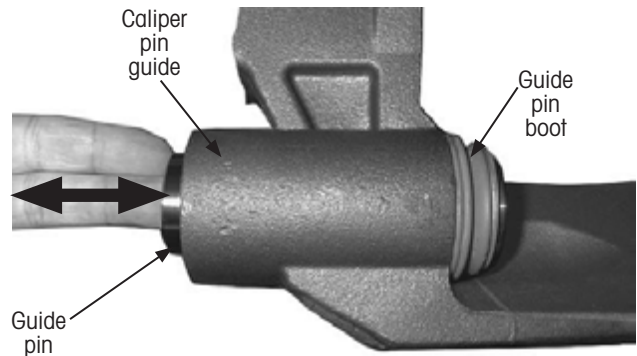

Figure 52: Removing guide pins
1. **Remove** the guide pins from the brake caliper (Figure 52).